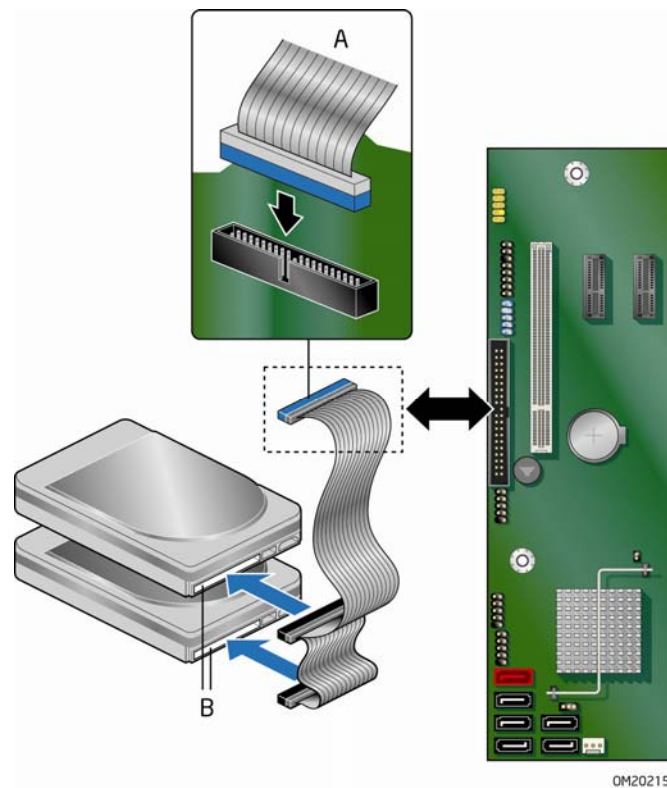

Figure 21. Connecting the IDE Cable
The IDE cable can be used to connect two IDE drives to the Desktop Board. The cable supports the ATA-66/100 transfer protocol. Figure 21 shows the correct installation of the cable.
- Attach the cable end with the single connector (blue) to the Intel Desktop Board (Figure 21, A).
- Attach the cable end with the two closely spaced connectors (gray and black) to the drives (Figure 21, B).